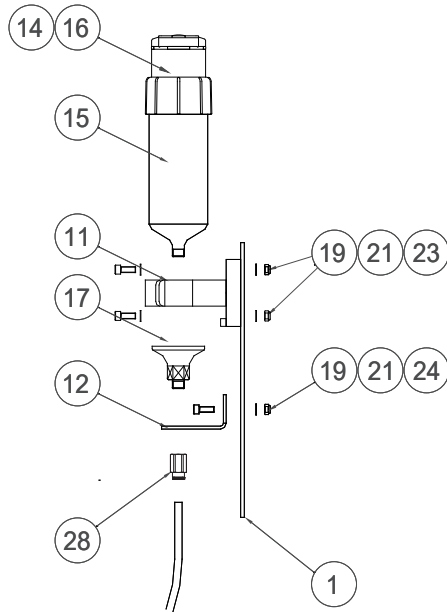

Fig. 6
- Mount the drive LC unit on the mounting plate (No. 1) with the brackets and fixings provided (Fig. 6) and attach to a suitable rigid structure ensuring that the distance can accommodate the 2.5 meter long twin tube.